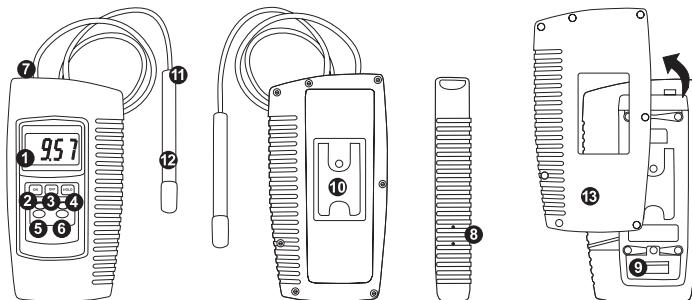

Figure 1
1. Connect the Conductivity Electrode (Figure 1, 12) to the Electrode Input Socket (Figure 1, 7).
3. Select the 2 mS/cm or 20 mS/cm range by pressing the appropriate range button (Figure 1, 5 or 6).
4. Holding the electrode handle (Figure 1, 11), immerse the conductivity electrode completely in the sample. Shake the electrode several times to remove air bubbles from the electrode and therefore ensure stable readings. The instrument will display the conductivity value in mS/cm.
2. Select the 2 mS/cm range (Figure 1, 5).
3. Holding the conductivity electrode by its handle (Figure 1, 11), immerse it completely in the calibration solution. Shake the electrode to disperse air bubbles on it and allow measurements to stabilise. Adjust „Calibration Adjust LR“ (see above) until the display reads exactly 1.413 mS/cm.
2. Remove the protective cover before replacing the battery. To replace the battery, remove the Battery Compartment Cover (Figure 1, 9) on the rear of the meter.